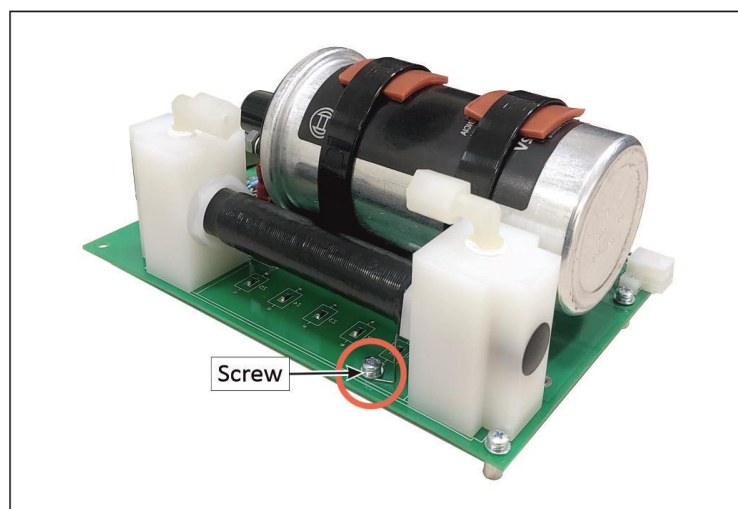

Figure 138 – Remove the Screw
6. With the PCA now free remove the screw (refer to Figure 138).